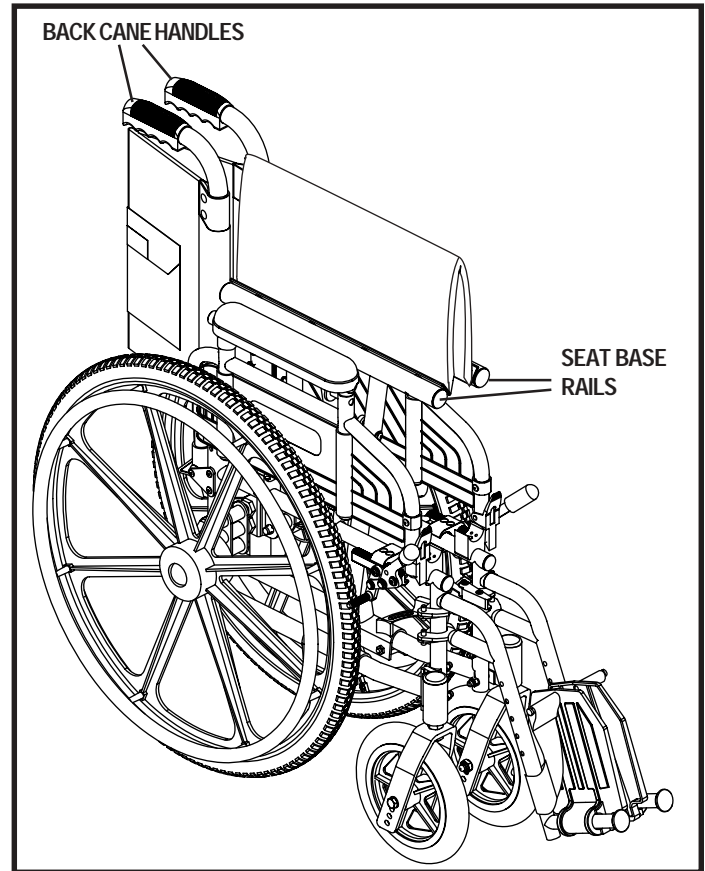

Figure 10. Lifting Points
2. With one hand, grab and squeeze together both back cane handles. See figure 10.